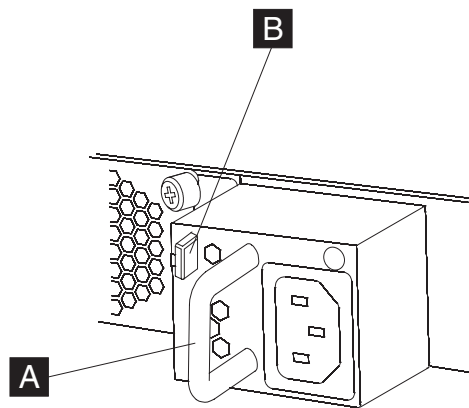
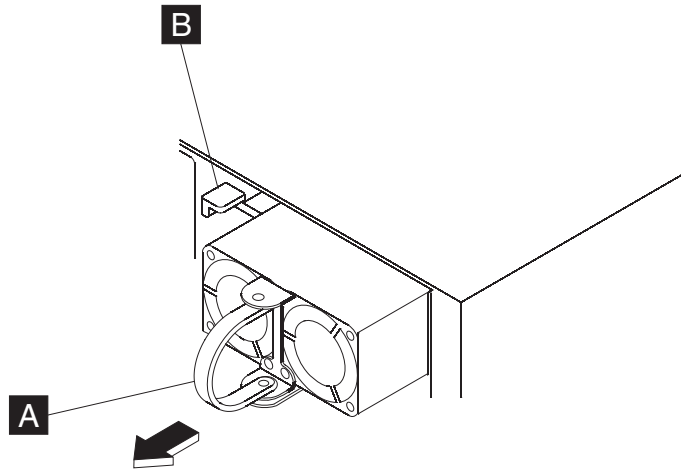

Figure 23. Removing a power supply module on a Type 7198 appliance
Figure 24. Removing a power supply module on a Type 7199 appliance
- a. Firmly grip the handle **A** of the failed module while pressing the orange release latch **B** toward the handle, and hold the release latch in this position, as shown in Figure 23 or Figure 24 on page 55.